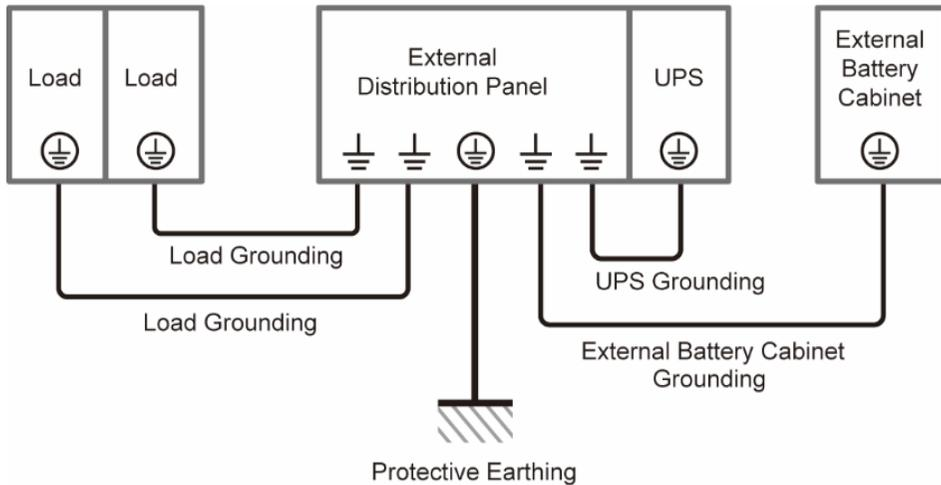
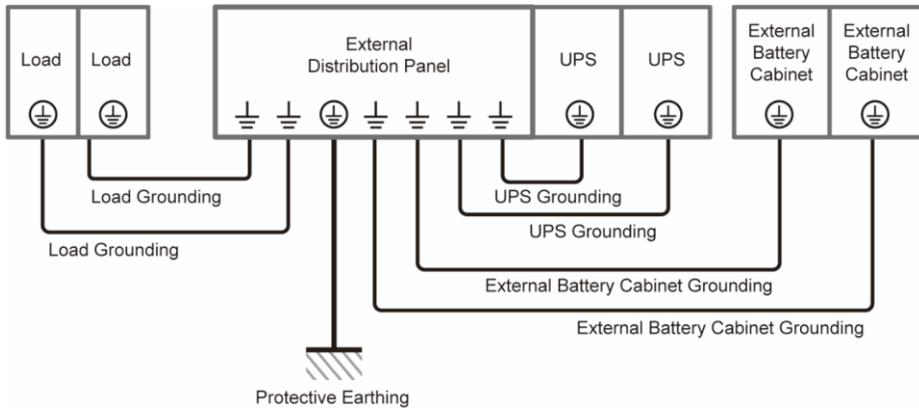

Figure 5-12: Grounding Diagram_ Single Unit
Figure 5-15: Grounding Diagram_ Parallel Units
Refer to *Figure 5-12* to ground the UPS, external battery cabinet(s) and connected critical loads.
- For the external battery cabinet’s grounding information, please refer to **Figure 5-12** and **Figure 5-15**.